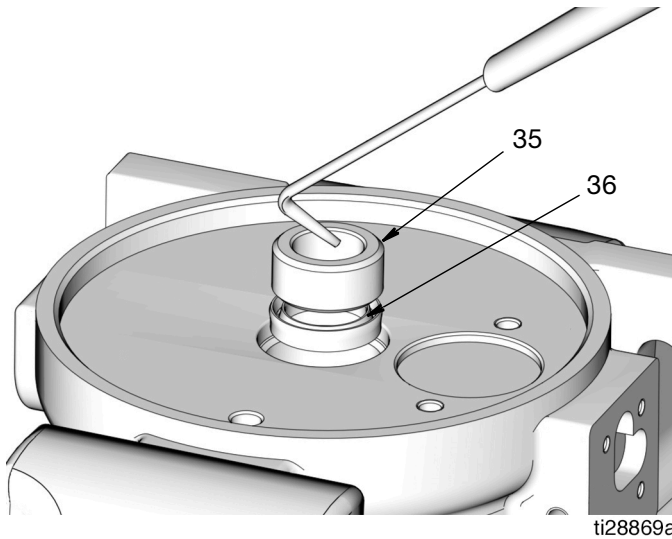

FIG. 26
27. Use a pick to remove the bushing (35) and u-cup seal (36) (FIG. 26).